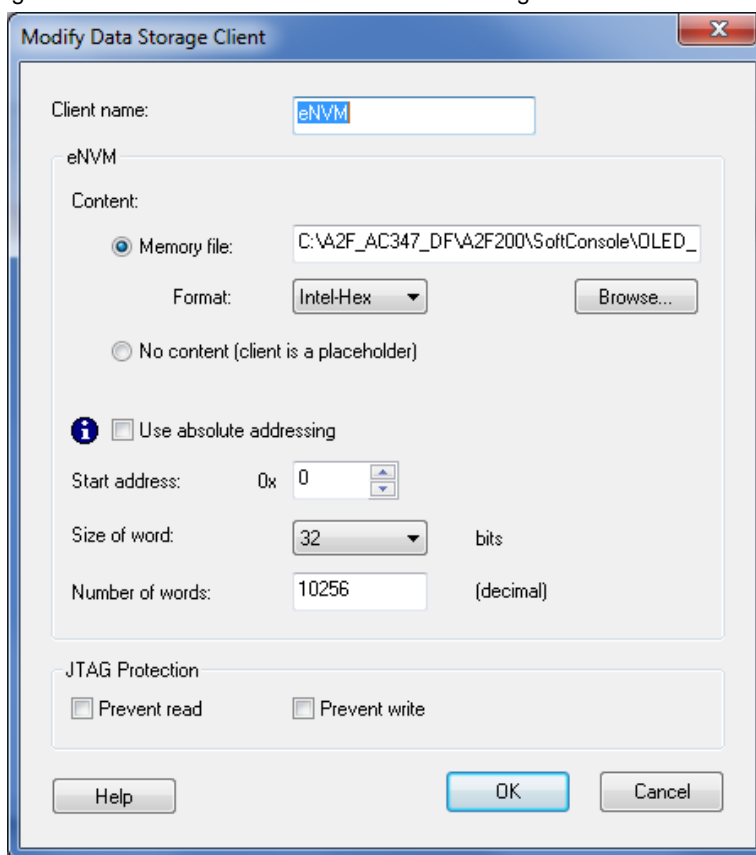

Figure 10 · Loading *.hex File
7. Change the size of word to 32 bits as shown in the Figure 10 .